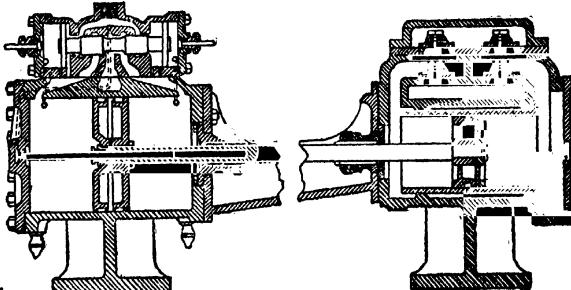

Fig. 17.—MARSH PUMP.
**Marsh Pump.**—This pump is of the independent steam-driven type with no outside valve gear (Fig. 17). The water end, which is of the piston pattern, contains two suction and two discharge valves. Directly over the suction valves (the two lower ones) is the so-called water-valve plate which carries the discharge valves and is fitted on by means of a gasket. The suction valves divided into two